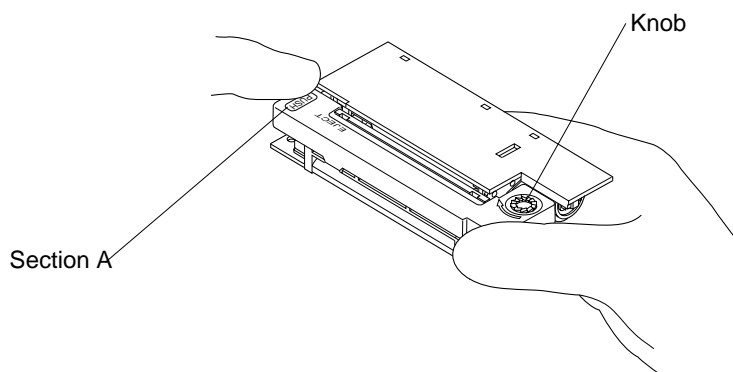

Figure 2-11 Installing the Ribbon Cassette
- 4) Place the ribbon cassette on the frame as shown in Fig. 2.11; then press the knob and section A simultaneously.